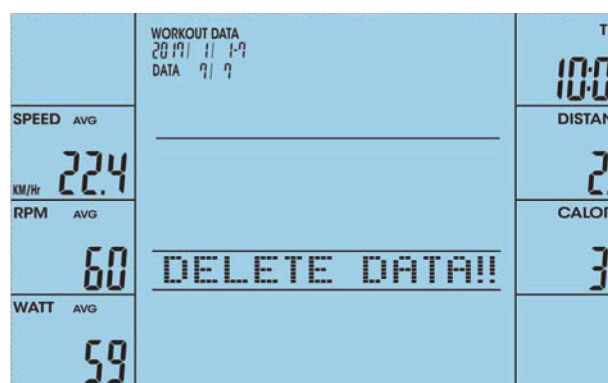

Fig. 58
2. Choose the date and press SAVE.DELETE. Confirm the deletion of the saving with ENTER (fig. 58).
2. Choose the data and press SAVE/DELETE. Confirm the deletion of the data with ENTER (fig. 58).